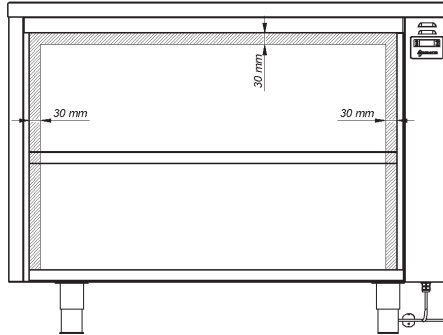
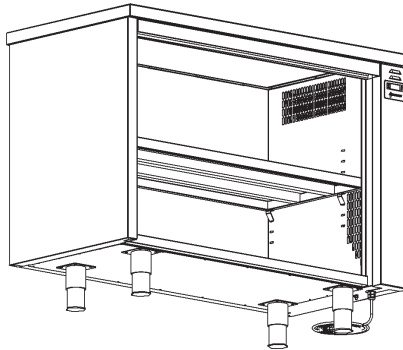

Figure 5 Air gaps required to ensure a sufficient air circulation
Figure 6 Air vents inside heated cupboard
**To ensure the required and effective air circulation inside the heated cupboard air gaps must be left from the inner surfaces of the cupboard. (See Figure 5 and Figure 6).**